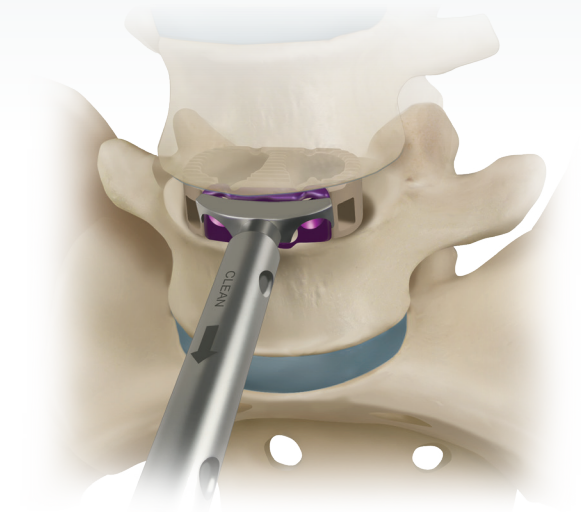

Figure 18:
- Insert the assembled implant into the disc space (**Figure 18**). Radiographically confirm the position and placement of the implant.